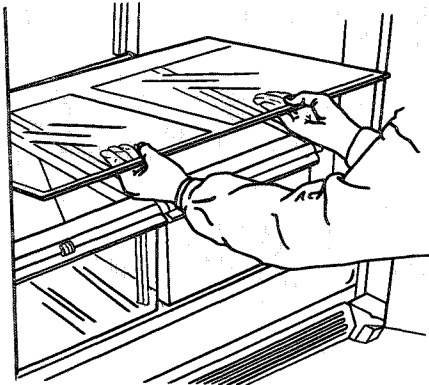

Figure 34
- f. Grasp shelf with other hand and tilt glass upward at one end and remove from refrigerator. See Figure 34.